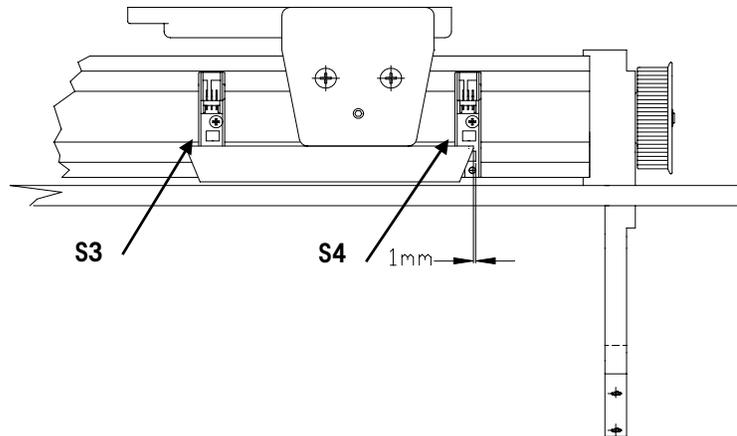

Figure 7-26: Center Clamp End-Of-Run Sensor (S4)
3. At this point, the sensor flag should be 1 mm from being flush with the end of the sensor (S4) as shown in Figure 7-26.